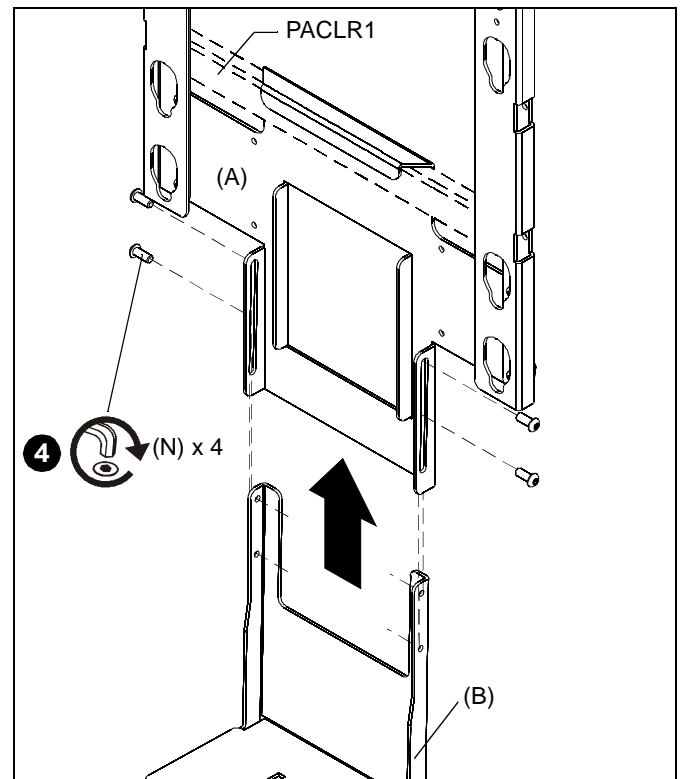

Figure 3
IMPORTANT ! : If installing the PACCS1 with the PACLR1 the top mounting flange on the PACCS1 must hang over the top of the lower speaker rail on the PACLR1 when installed. (See Figure 3)
4. Assemble adjustment bracket (B) to shelf bracket (A) using four 1/4-20 x 5/8" button head cap screws (N) -- two on each side of adjustment bracket. (See Figure 3)